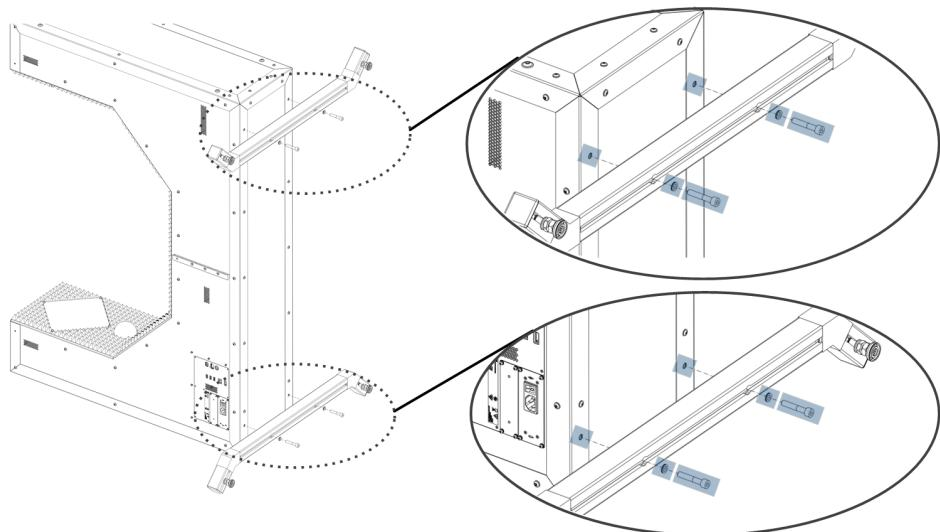

Figure 4-6: Attaching the supporting feet for lying position
- Screw the two feet to the mounting holes indicated in Figure 4-6 with an Allen wrench. The screws and wrench are part of the delivery (M8X45). Put the washers between screw heads and feet.